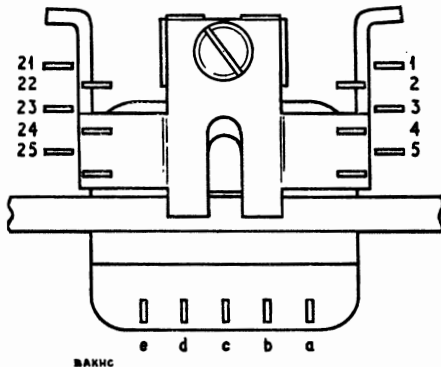

FIG. 5.—COIL TAG LETTERING VIEWED FROM REAR OF RELAY
6. Coil tag lettering. (See Fig. 5).—There are five tags designated a-e from right to left when the relay is viewed from the rear. *NOTE*:—This is the opposite way to that for 3000 type relay coil tags.